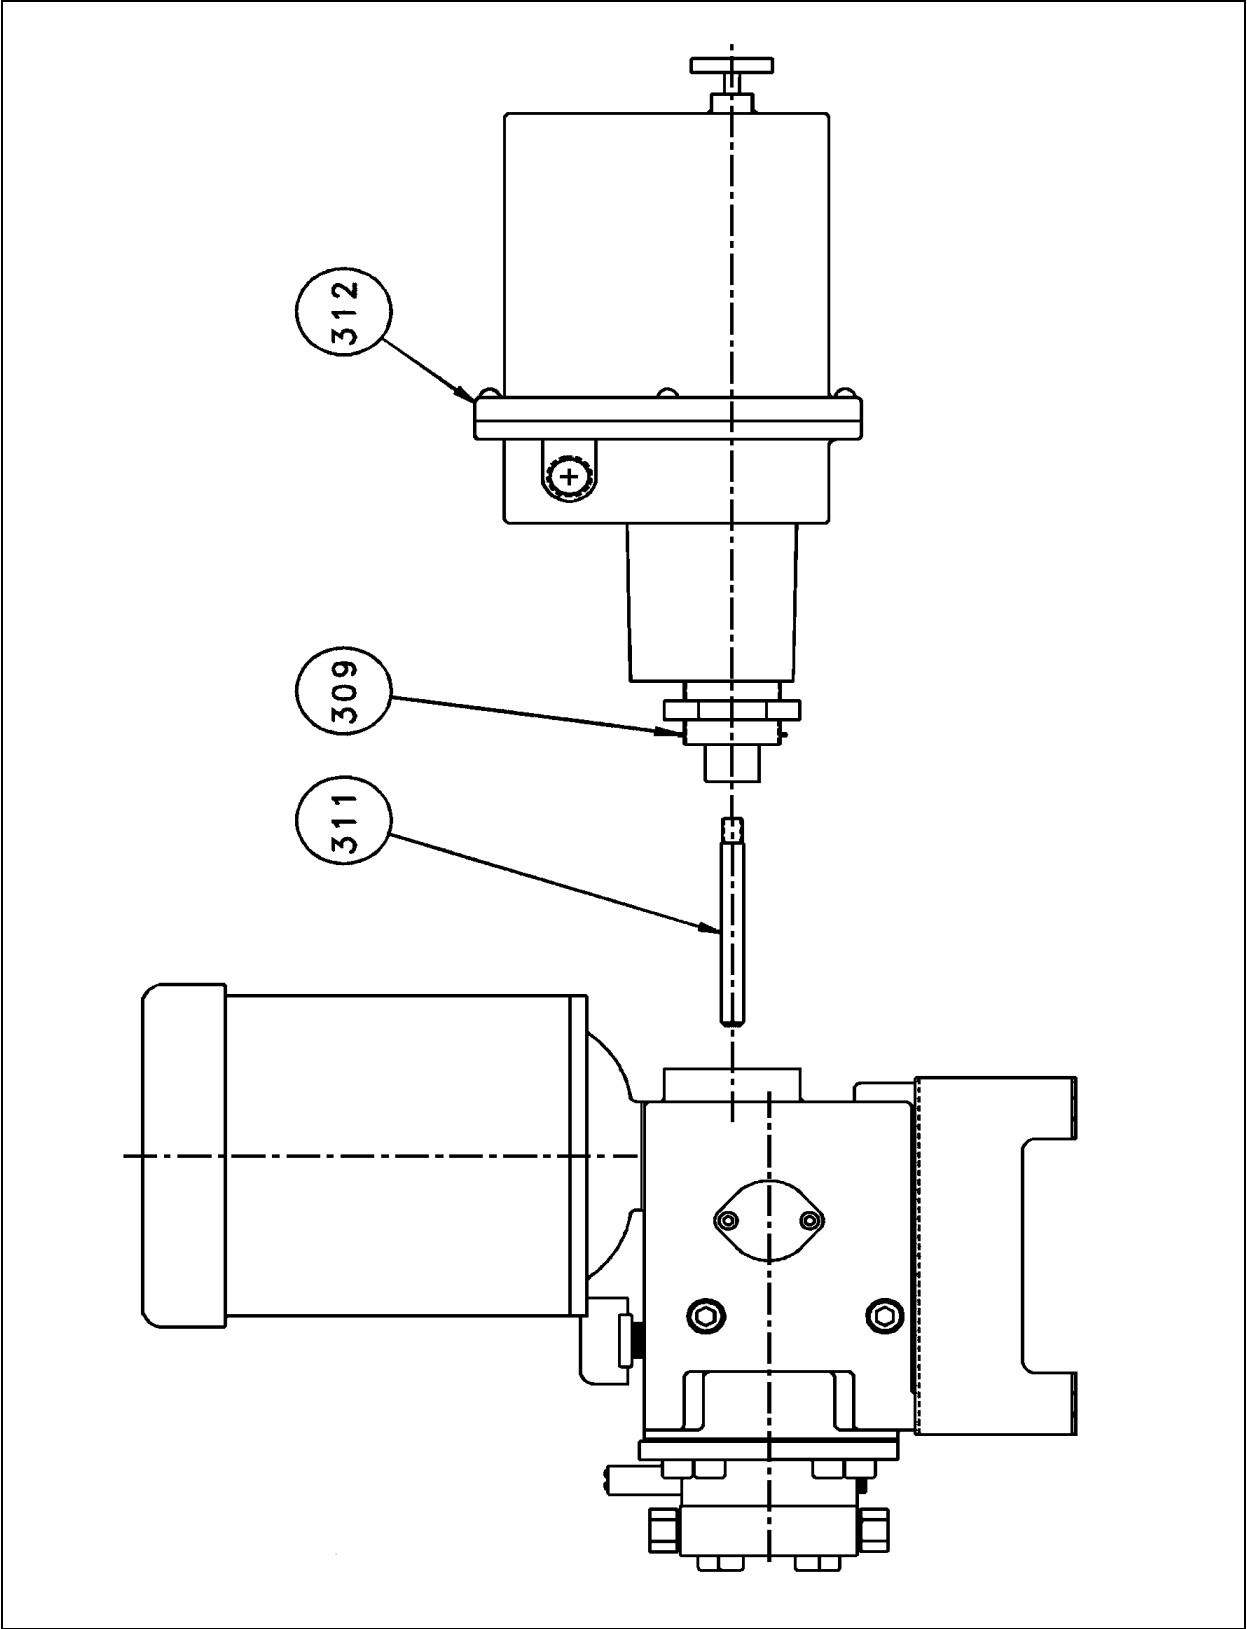

Figure 39. Electronic Stroke Adjuster Assembly.
6.20 ELECTRONIC STROKE ADJUSTER ASSEMBLY (FIGURE 39)